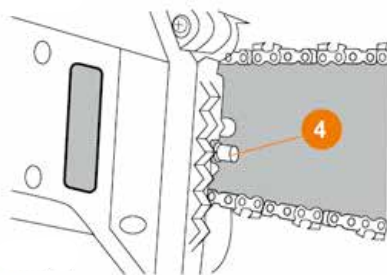

Рис. 6 / Fig. 6
3. Install the protective cover, pull the nose of the bar and tighten the chain, securing it with the tensioning nut (Fig. 3-5). Adjust the chain tension by turning the screw 4 clockwise (Fig. 6).